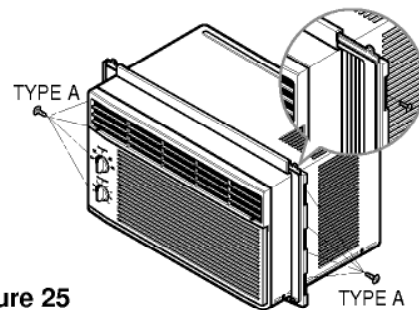

Figure 25
1. Insert the guide panels into the guides of the air conditioner. Fasten the curtains to the unit with screws (TYPE A) as shown Fig. 25.